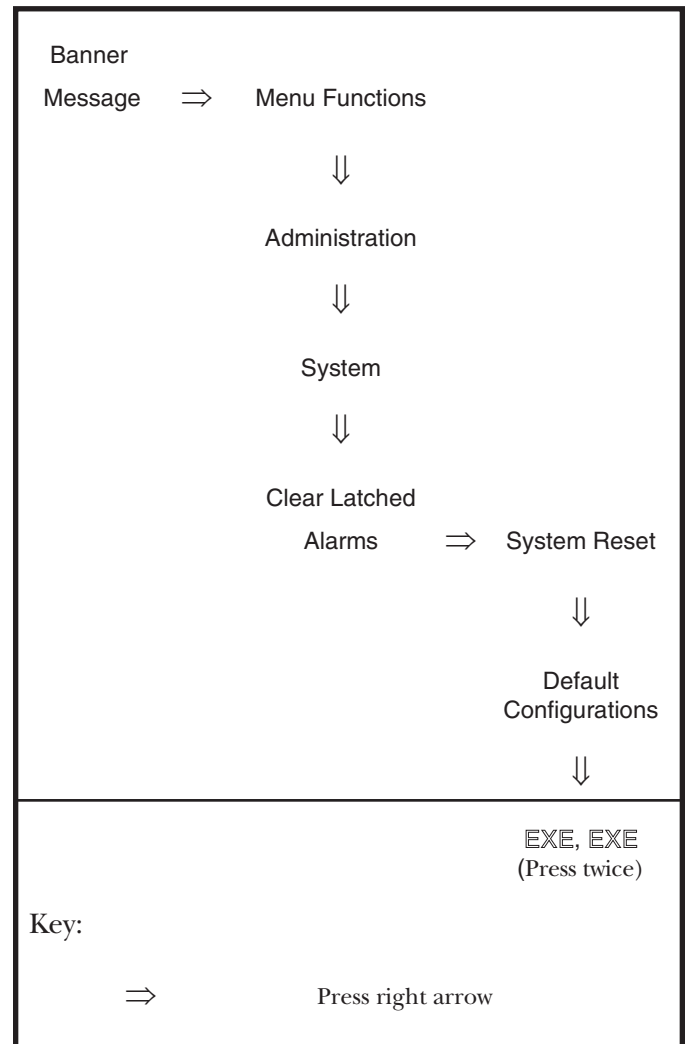

Figure 6-2. Cold start using the LCD/Keypad Menu.
- Perform a cold start using the front-panel keypad. Refer to Figure 6-2.